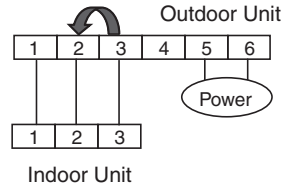

Fig. 3
2. Short-circuit between the terminals 2 and 3 on the outdoor unit terminal strip. (Fig. 3)